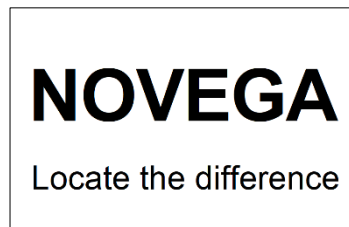
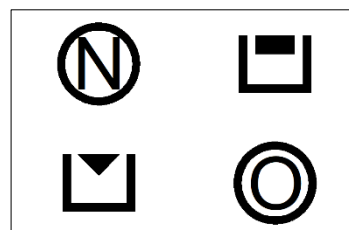
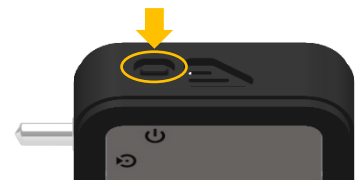

Figure 16: Start Screen
Figure 17: Start Menu
Figure 28: Switch On/Off the Ulyser
Switch on the Ulyser by pressing the On/Off-Button until the Start Screen (Figure 16) appears.
Four different functions (buttons see below and on Figure 17) can be selected in the Start Menu:
**Note:** To return to the Start Menu (Figure 17) tap the screen.
**Note:** Return to the Start Menu (Figure 17) by tapping the screen.
**Note:** The Ulyser returns to the Start Menu (Figure 17) automatically.
**Note:** The Low Battery Screen is only displayed after the Start Screen (Figure 16), when the device is turned on. Then the Ulyser automatically switches into the Start Menu (Figure 17).
Switch on the Ulyser by pressing the On/Off-Button (Figure 28) until the start screen (Figure 16) appears.